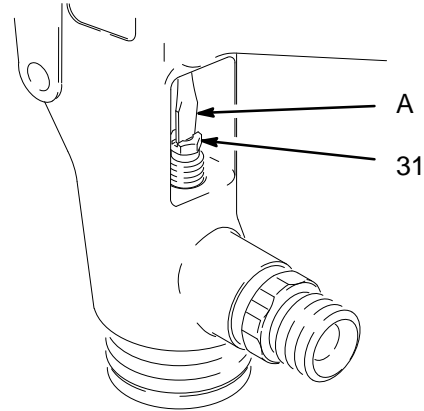
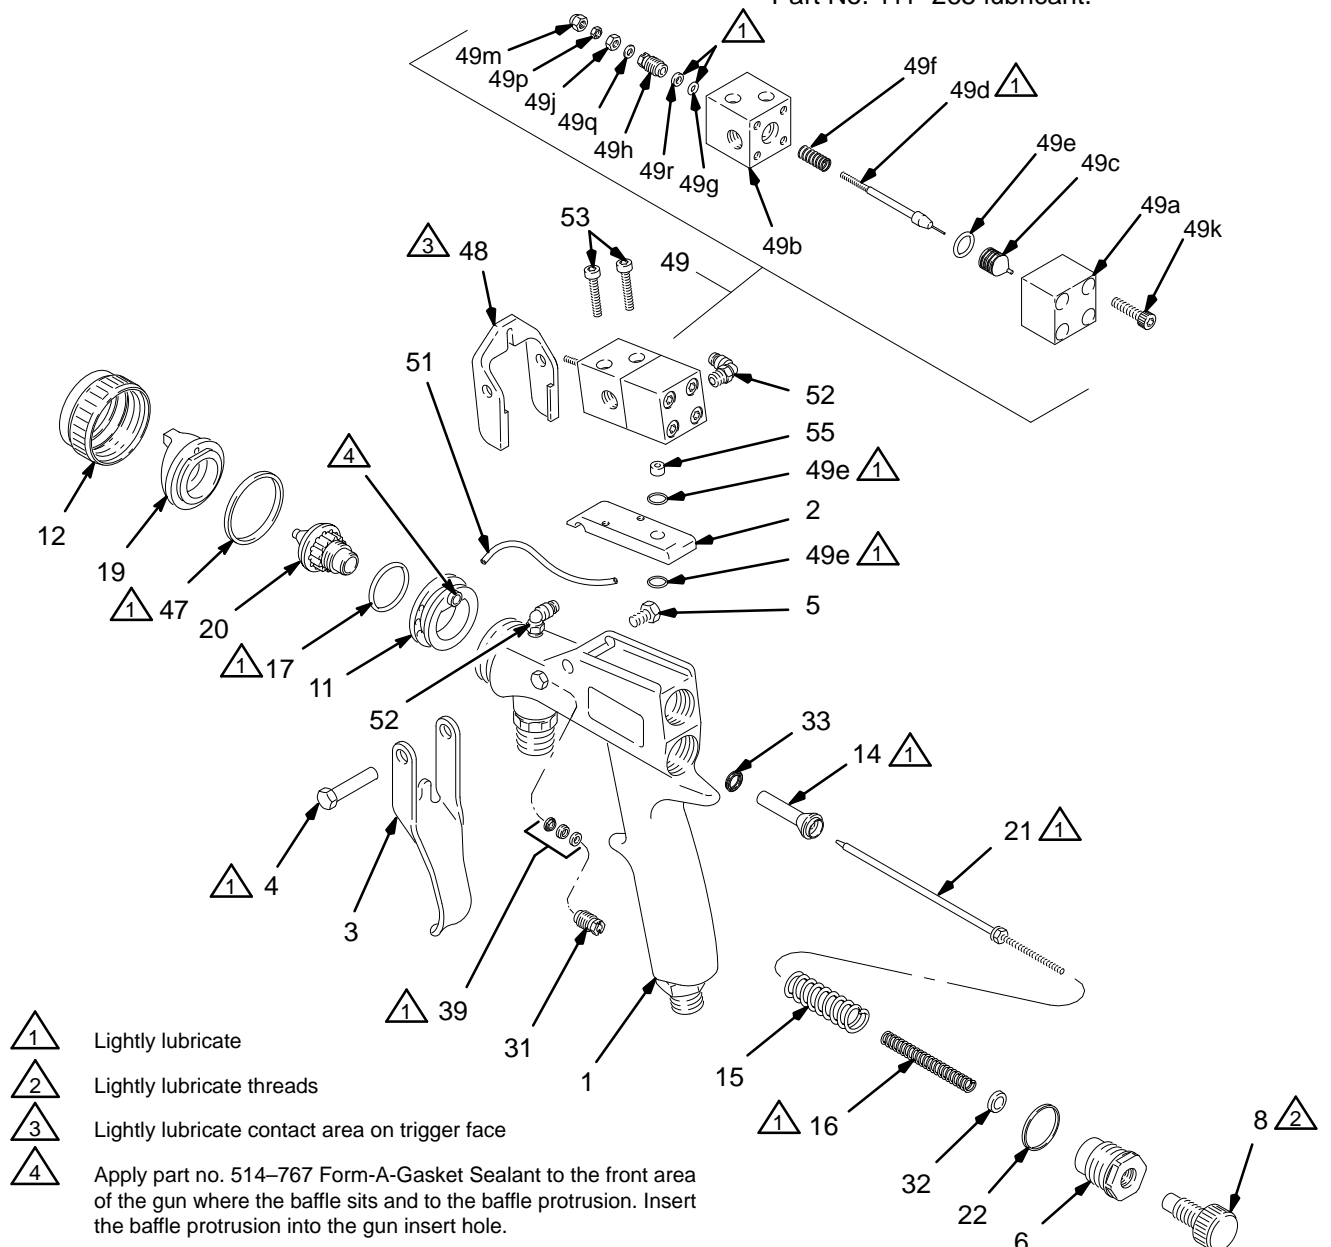

Fig. 31 02762
Fig. 34
3. Remove the nozzle seal (17). See Fig. 34.
4. Remove the fluid adjustment knob (8) and spring (16).
5. Pull the fluid needle (21) out the back of the gun.
7. Remove the fluid adjustment nut (6), spring (15), and air valve (14).
8. Insert a thin-blade screw driver (A) through the back of the gun and into the packing adjustment nut (31) and remove the screw. See Fig. 31.
11. Remove and disassemble the activator valve (49). See Fig. 34. Use the threaded end of the activator needle (49d) to push out the needle packings (49g and 49r). Do not bend the end of the needle.
13. Check the baffle (11) for damage. If it is damaged, carefully pry it off with a screwdriver and replace it. Apply part no. 514-767 Form-A-Gasket Sealant to the front area of the gun where the baffle sits and to the baffle protrusion. Insert the baffle protrusion into the gun insert hole.
14. Lightly lubricate the parts indicated in Fig. 34 with Part No. 111-265 lubricant.
NOTE: See Fig. 34, page 19, for the parts that need to be lubricated.